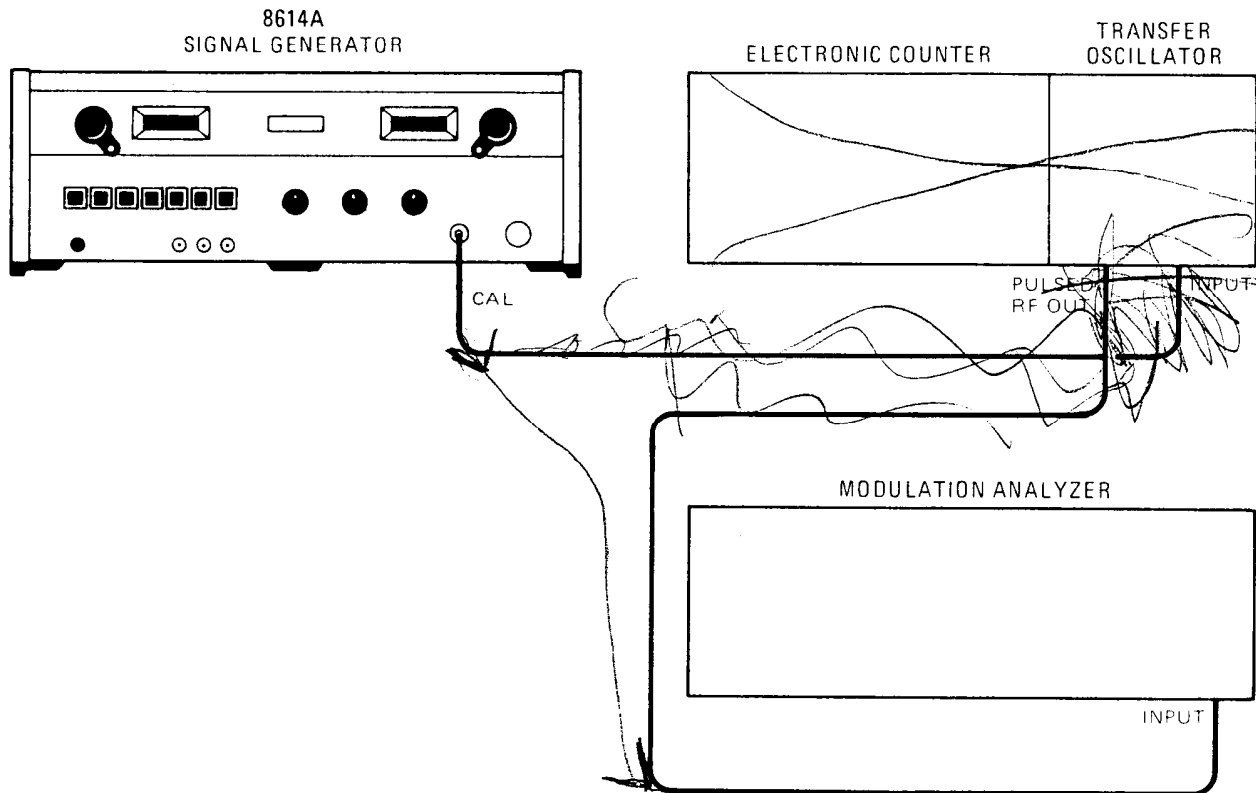

Figure 5-5. Residual FM Check
- a. Connect equipment as shown in Figure 5-5.